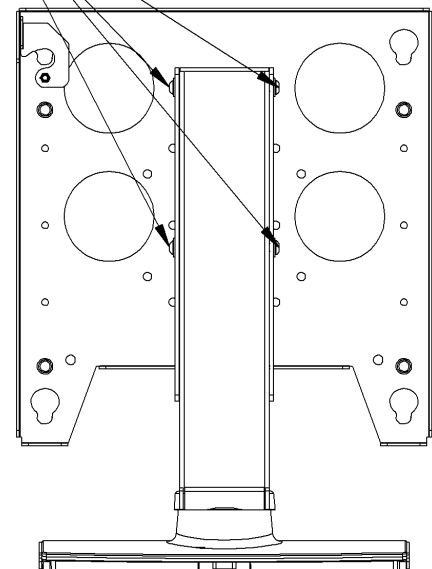

Figure 2. Height Adjustment
1. Loosen the four height adjustment screws and raise the slide to its maximum height (see Figure 2).
5. Raise the slide to its maximum height (see Figure 2).
1. While holding the display in place, loosen the four height adjustment screws (see Figure 2).
3. Tighten the four height adjustment screws (see Figure 2).